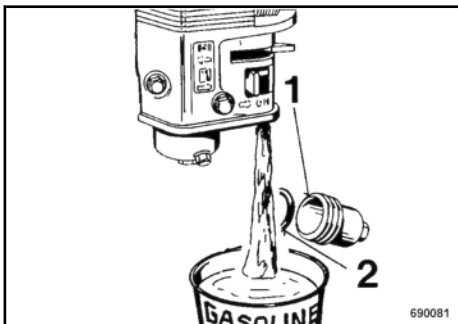

Fig. 56
Unscrew the sediment filter (1) ↺ Fig. 56, drain off and catch all fuel.